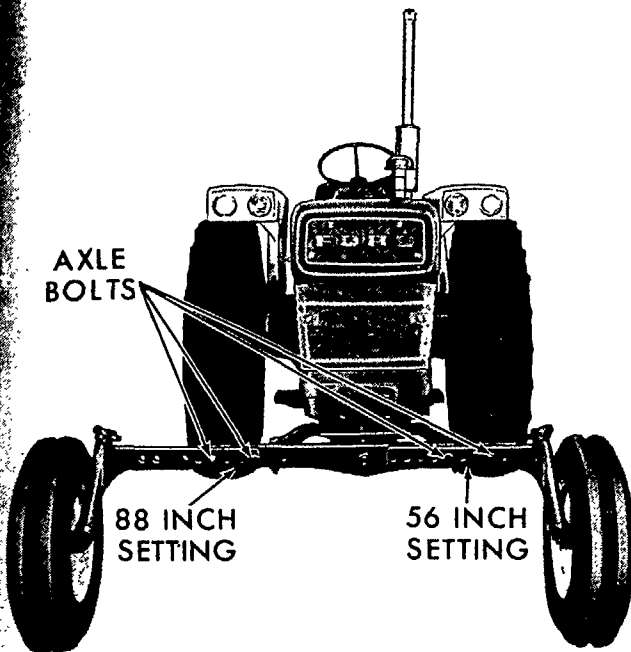

Figure 21
adjustable front axle is adjustable from 56 to 88 inches (142.2 to 223.5 cm), in approximately 4 inch (10.1 cm) increments. See Figure 21.
1. Remove the bolts, nuts, and flat washers securing the outer axle sections to the center axle section, Figure 21.